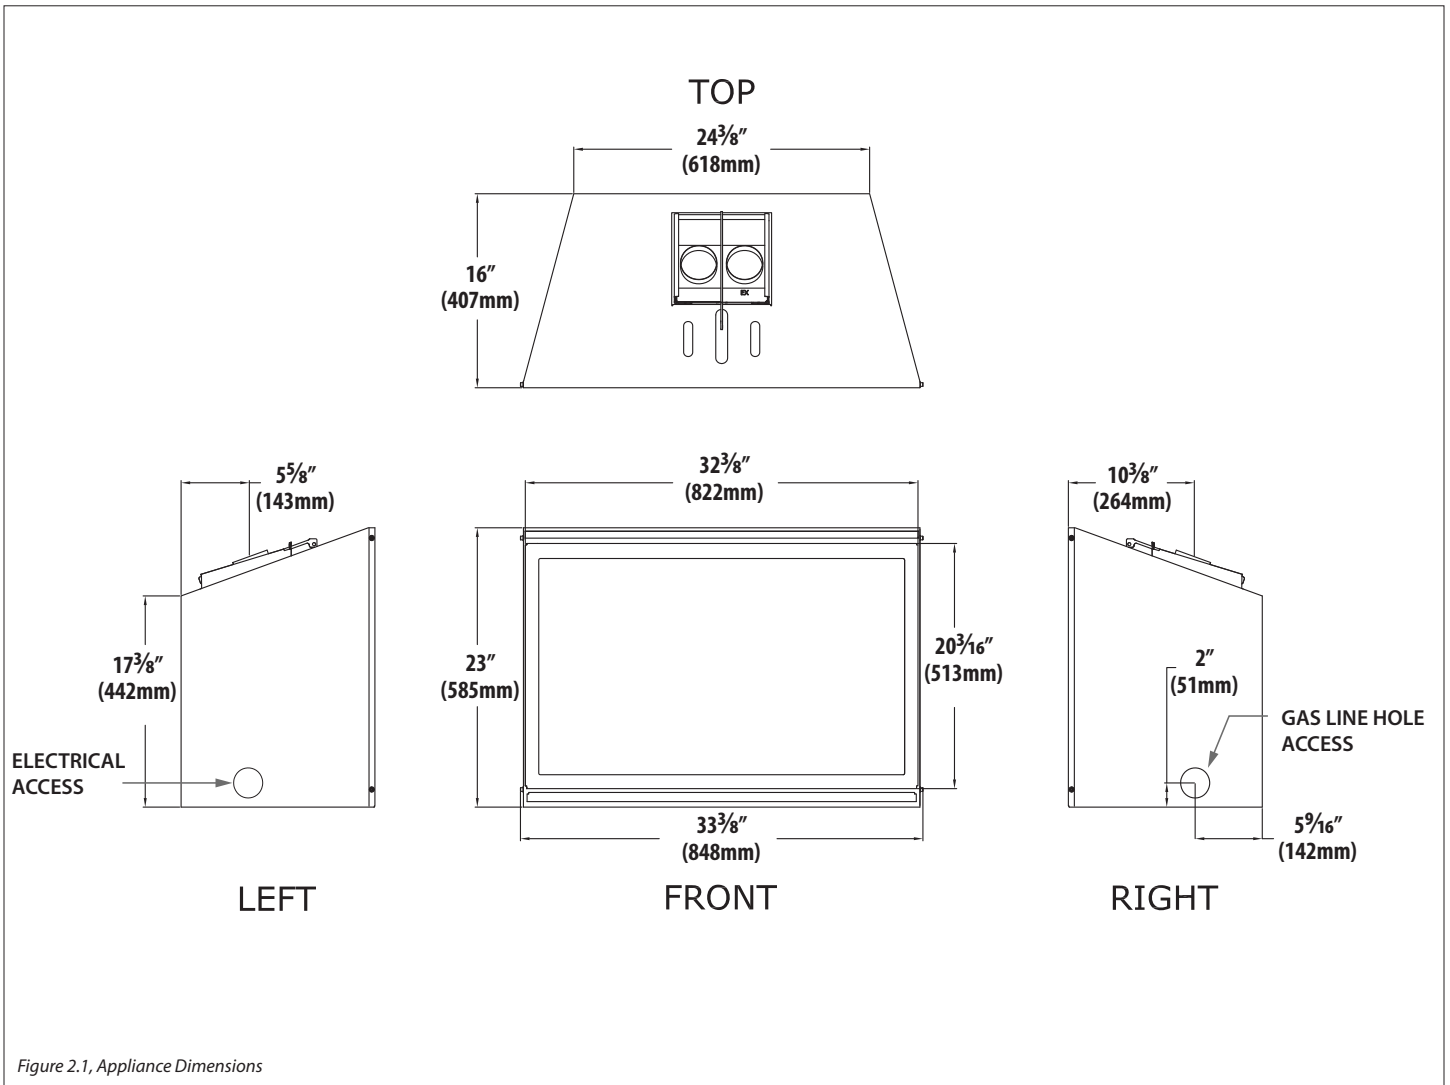

Figure 2.1, Appliance Dimensions
- A gas line must be able to be installed to the fireplace insert. Please refer to Figure 2.1 on page 9. The gas line access hole is located on the right side of the insert.
- (A) Height 23-1/2 in (597 mm)
- (B) Front Width 33-1/2 in (851 mm)
- (C) Depth 16-3/8 in (419 mm)
- (D) Back Width 24-1/2 in (622 mm)
- See Figure 2.1 on page 9 for electrical outlet box location to run any necessary electrical wiring to the gas fireplace insert.